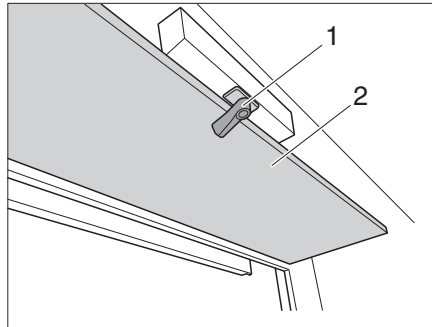

Fig. 154 Flap for the crank
- Release the locking mechanism (Fig. 154,1) and fold the flap (Fig. 154,2) downwards.